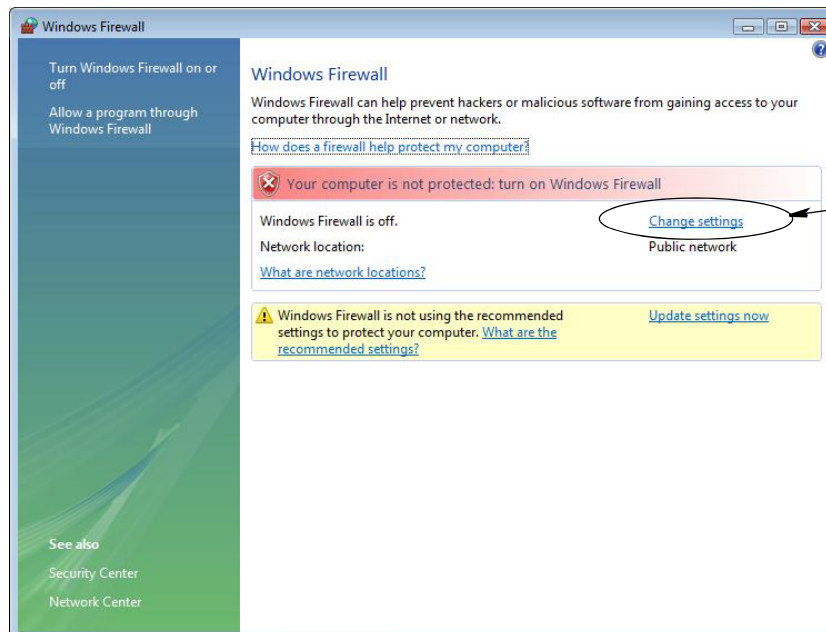

FIG. 36
2. Select Change Settings (FIG. 36).